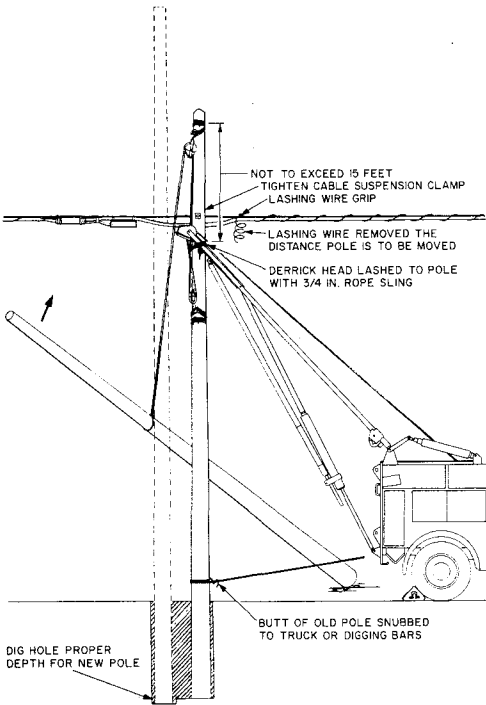

Fig. 5—Place New Pole
- (4) Shift the butt of the pole with digging bars or rope blocks.
- (5) Slack off slightly on the winch line and push the top of the pole to a vertical position with pike poles.
- (6) Lash the pole to the main leg of the derrick as shown in Fig. 5, or support it with pike poles or rope side guys.
- (7) Tighten the cable suspension clamp.
- (8) The winch line can now be released and used to place the new pole.